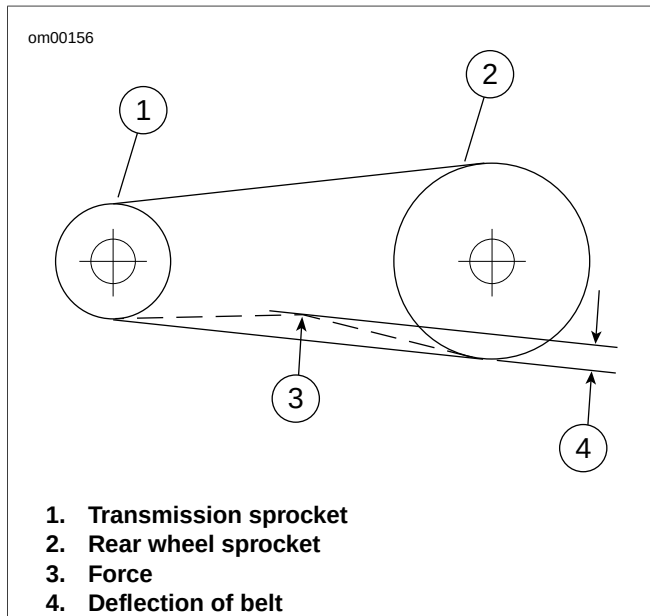
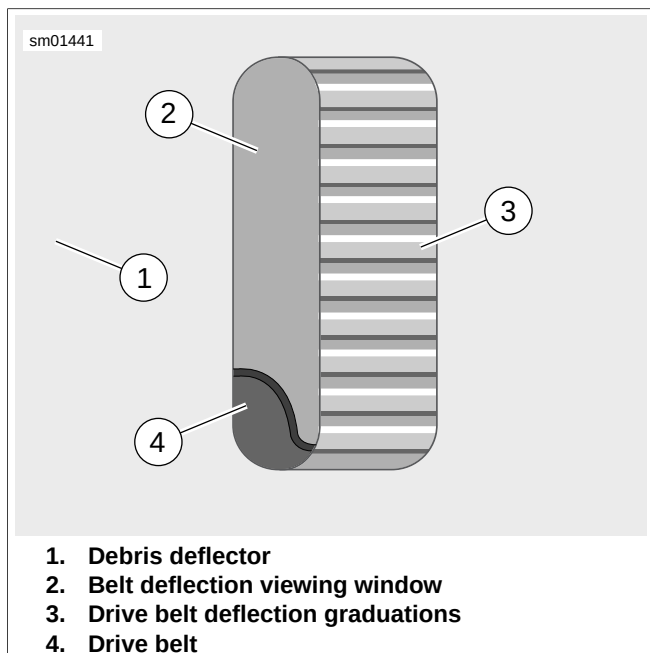

Figure 1-26. Check Belt Deflection
Figure 1-27. Belt Deflection Window
- Slide o-ring (4) toward 0 lbs (0 kg) mark (3).
- Fit belt cradle (2) against bottom of drive belt half-way between drive pulleys (point 3 in Figure 1-26.)
- Press upward on knob (6) until o-ring slides down to 10 lbs (4.5 kg) mark (5).
- See Figure 1-27. Measure belt deflection as viewed through deflection viewing window (2) while holding gauge steady. Deflection graduations (3) are 1/8 in. (3.2 mm) apart.